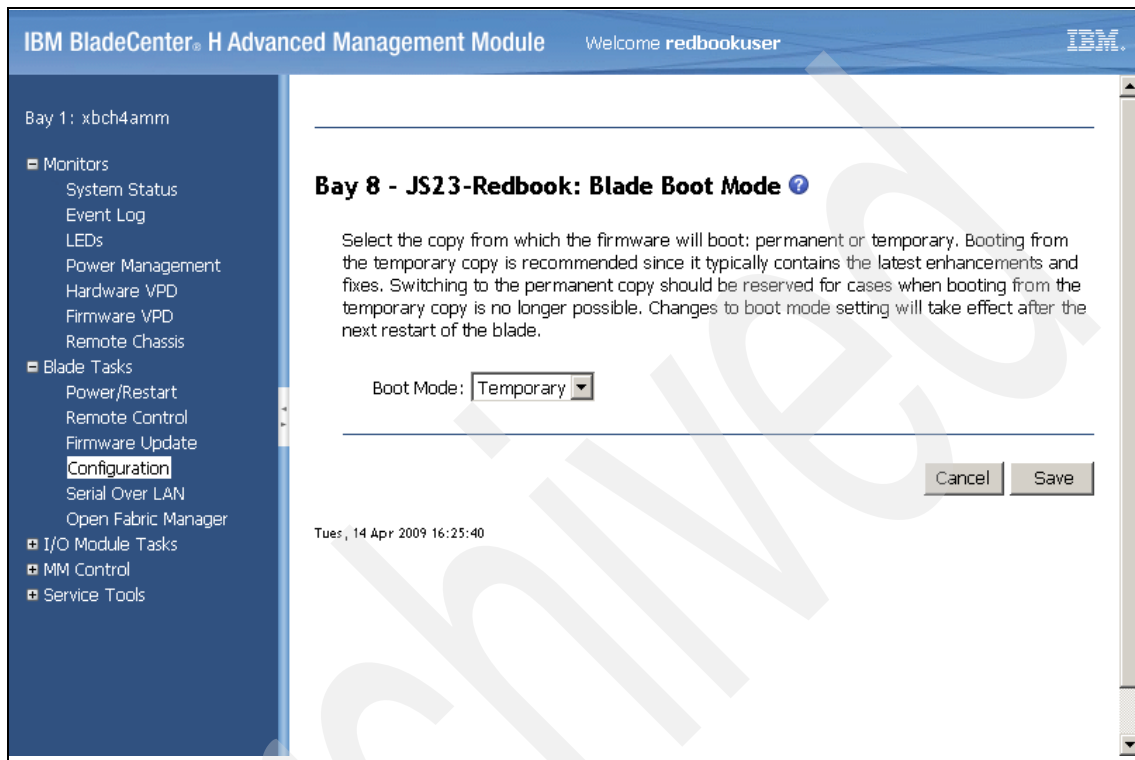

Figure 12-2 Firmware selection page
4. Select **Temporary**, as shown in Figure 12-2, to force the system to use the firmware image from the TEMP side, and then click **Save**.